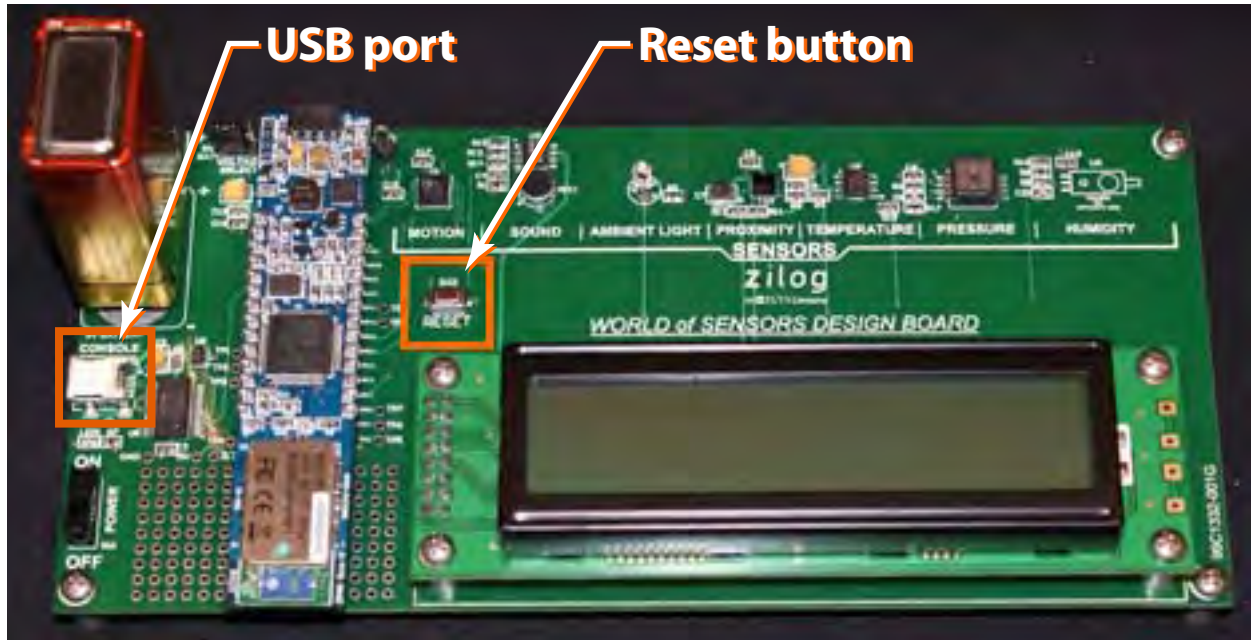

Figure 2. Zilog's World of Sensors Design Board with Module Attached
Figure 2 shows the Board with a battery and a Mini-Z™ Z-PAN® Module mounted onto it. Note the Reset button, which is highlighted in the figure.
1. Connect the USB cable from the PC to the WoS Design Board's USB port. The USB port is located adjacent to the battery terminal and is labeled `CONSOLE`, as shown in Figure 2 on page 2.